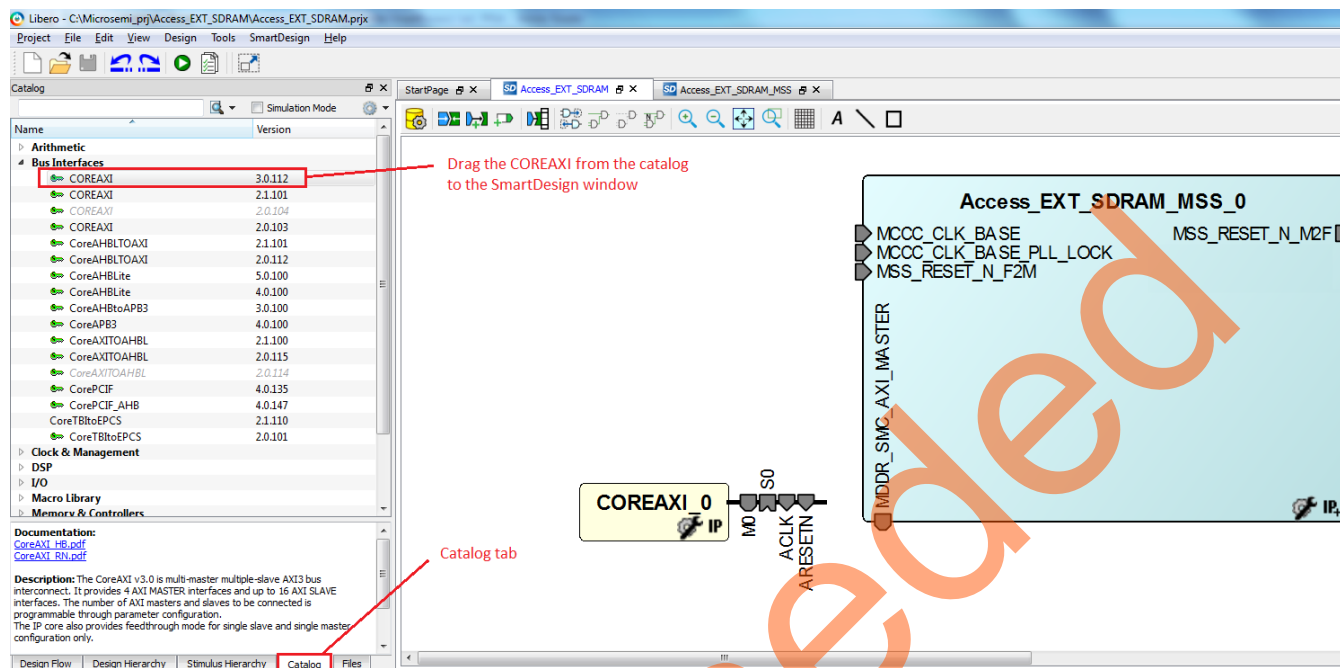

Figure 16. CoreAXI IP from the Catalog
1. Select the **CoreAXI** IP from the Bus Interface sub-section of the IP Catalog, as shown in Figure 16, and drag it onto the **Access\_EXT\_SDRAM SmartDesign** tab.